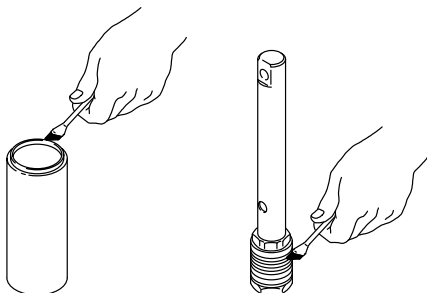

Fig. 31 02574
9. Grease the piston packings and the top edge of the sleeve. See Fig. 31.